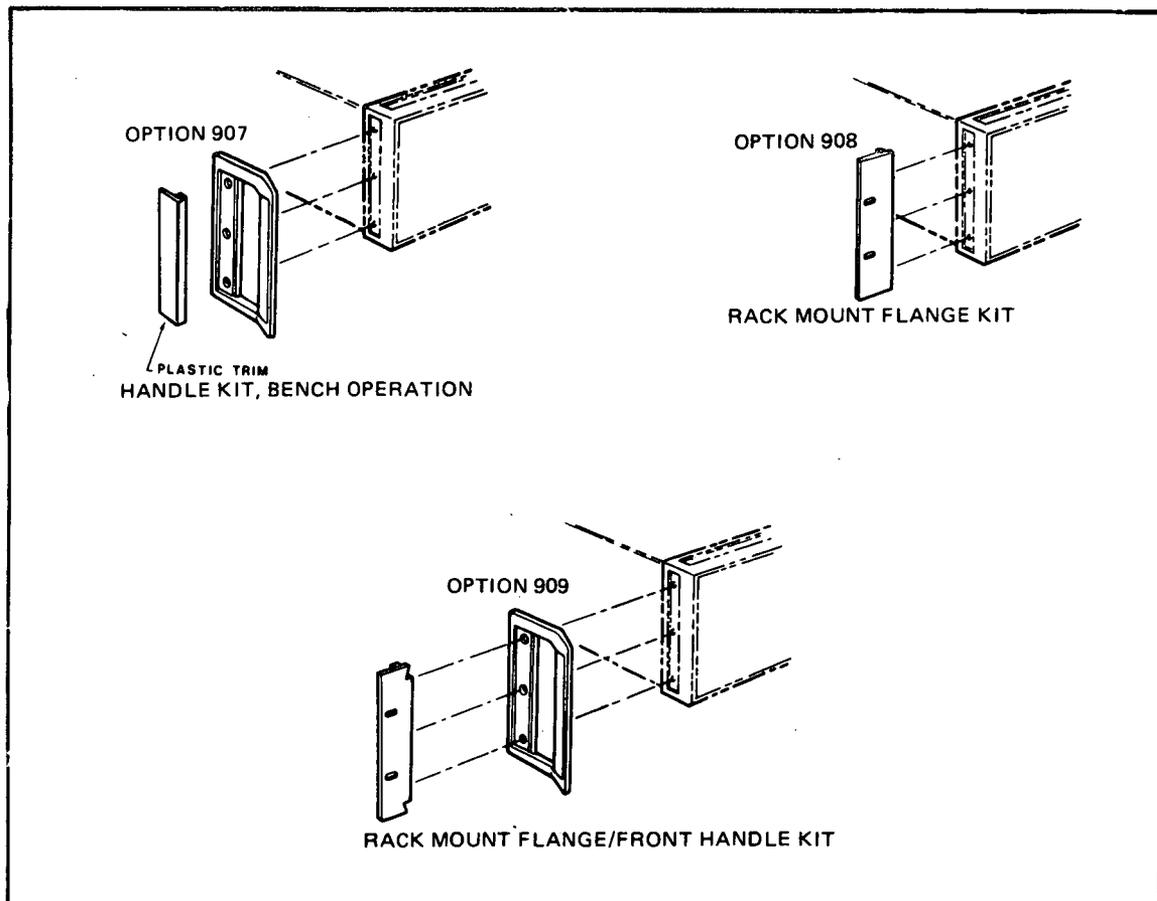

Figure 2-3. Rack Mount and Handle Kits.
2-27. The instrument has plastic feet attached to the bottom panel. The front feet contain foldaway tilt stands for convenience in bench operation. The tilt stand raises the front of the instrument for easier viewing of the control panel. The plastic feet are shaped to make full width modular instruments self-align when they are stacked. A front handle kit, -hp- Part No. 5061-0089 (Option 907), can be installed for ease of handling the instrument on the bench (see Figure 2-3). The kit is shipped with the instrument if Option 907 is ordered. Otherwise, the front handle kit is available separately by its -hp- part number.
The Rack Mount Flange Kit (item a) will not provide the space requirement for rack mounting when used with the bench handle assembly (-hp- Part No. 5060-9899, Option 907). To rack mount with handles, the combination kit of item b (Option 909) must be used (see Figure 2-3). If either Option 908 or 909 is ordered, the corresponding kit is shipped with the instrument. Otherwise, both kits are available separately by their -hp- part numbers.
- ⑤ AC Line Input Connector. Accepts power cord supplied with the instrument.
- ⑥ HP-IB Connector. Used to interface the instrument with the Hewlett-Packard Interface Bus (HP-IB). This connector accepts metric threaded cable lock screws only. Metric lock screws are black anodized. (Figure 2-3)
- ⑦ HP-IB Address Selection Switches. Binary weighted switches that set the HP-IB (talk and listen) Address of the instrument. Preset to 4 at the factory. (Paragraph 2-15)
- ⑧ LON Switch. When set to LON, the instrument will Listen ONLY to messages from the HP-IB. The instrument's transmit capabilities are disabled.
- ⑨ Air Filter. Cleans air circulated through the instrument for cooling. Check and clean this filter periodically. (Paragraph 3-101)
- ⑩ REAR 21-60 MHz OUTPUT Annunciator. Lit when the 21-60 MHz OUTPUT is activated. Output is activated by programming frequencies ≥ 21 MHz and deactivated by programming frequencies < 20 MHz. (Paragraph 3-45)
- ⑪ SYNC Output. Supplies a TTL level square wave (into 50 ohms) to synchronize other instruments to the Main Signal Outputs. (Paragraph 3-20)
- ⑫ EXT REF Input. Allows the instrument's internal oscillator to phase-lock to an external frequency standard. (Paragraph 3-23)